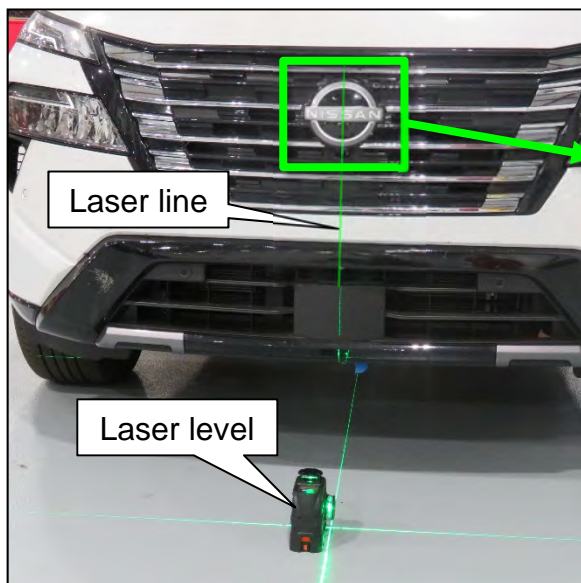
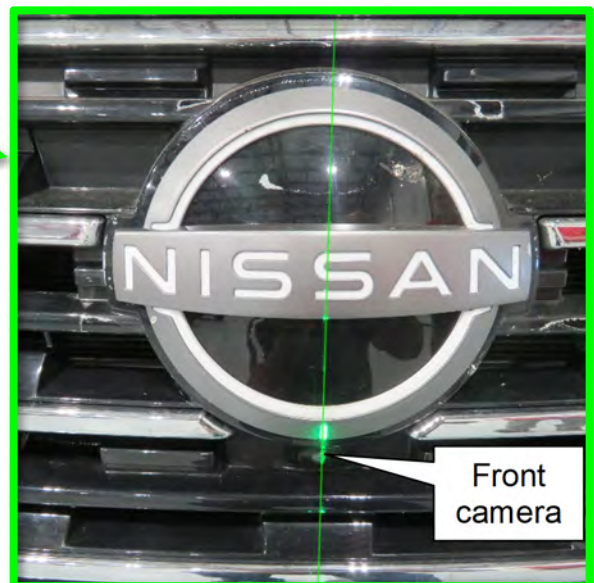

Figure 59
Figure 60
41. Place the laser level approximately 800 mm (31.5 in.) from the front of the vehicle and align the laser with the front camera, as shown in Figure 59 and Figure 60.